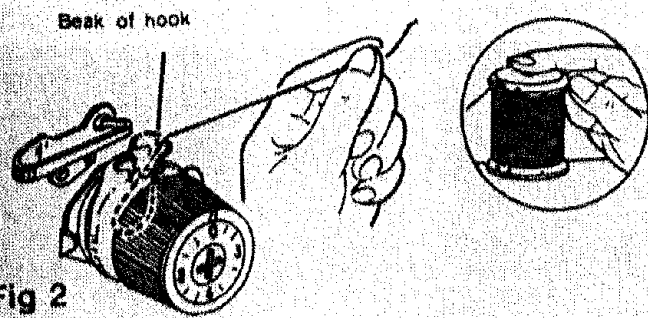

Fig 2
2. To install machine in portable carrying case, simply slip machine into base, making certain the machine and the words Front in the case face you. (Fig. 2)
(Fig. 2)
2. Holding the spool with the right hand, pull the thread through the tension discs. The spring wire loop should be pulled up until the thread passes beyond the beak of the hook. Fig. 2.